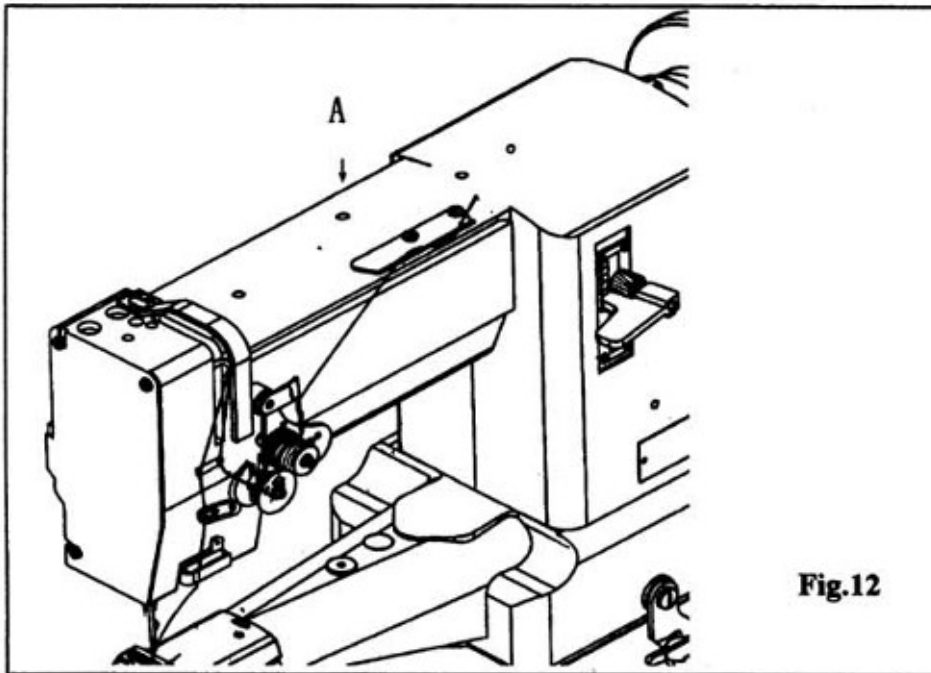

Fig.12
10、 ADJUSTING THE PRESSURE OF PRESSER FOOT (Fig.12)